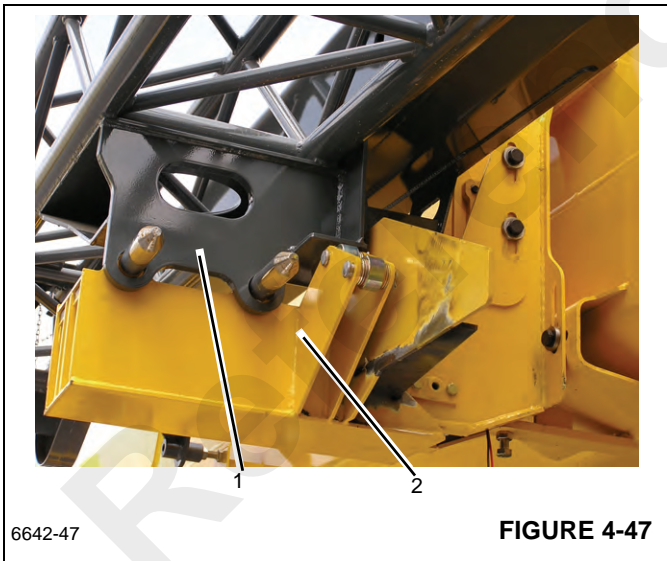
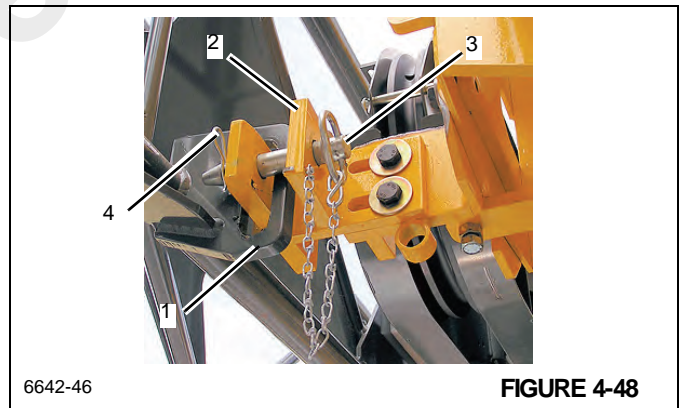

FIGURE 4-47
FIGURE 4-48
9. Raise the boom to ensure wear pad rests against bumper plate on ramp (Figure 4-47).
10. Completely retract boom so that the jib (1, Figure 4-47) stows on the ramp (2) and front stowage brackets.
If the 10.1 m (33 ft) lattice extension (1, Figure 4-47) does not engage the ramp (2, Figure 4-47) correctly or does not align with the front stowage bracket (2, Figure 4-48) correctly, **STOP**. DO NOT continue to stow the jibs until they are properly secured at these two points.
12. Remove the stowage pin from the holder at the front mount. Secure the lattice extension (1, Figure 4-48) to boom front stowage bracket (2) using stowage pin (3) and clip pin (4).
Never remove the stowage pins from the right side boom nose lugs (1, Figure 4-49) until the 10.1 m (33 ft) lattice extension has been properly secured to the stowage ramp (2, Figure 4-47) and front stowage bracket (2, Figure 4-48).